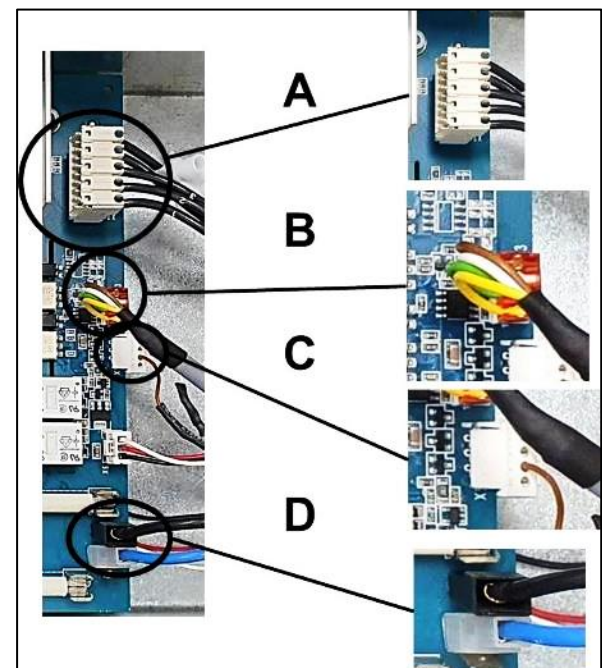

Fig.2.9
- 19. Connect and secure the motor cable **A** (Fig. 2.9).
- 20. Connect the new communication cable **B** (Fig. 2.9).
- 21. Connect the power adaptor cable **C** (Fig. 2.9).
- 22. Connect the 220V power cables **D** (Fig.2.9).